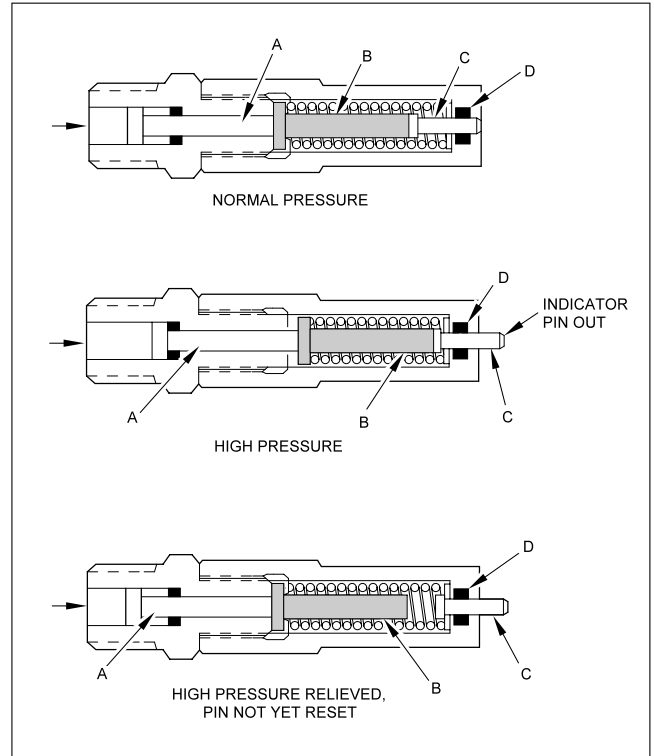

Figure 1. Reset Indicator Operation
Reset Indicators stop lube system operation when a fault occurs. These devices can be used in either master or secondary divider valves. When a lube line becomes blocked, the resultant high pressure moves pistons (A) and (B) (see Figure 1). This movement compresses the spring and pushes indicator pin (C) through the opening in the cap. The high pressure prevents the affected divider valve piston from completing its cycle, causing a pressure backup through the divider valve which trips a pressure switch upstream from the valve and shuts off the pump. As high pressure is relieved, the spring expands, resetting the pistons. Indicator pin (C) is held in place by o-ring (D) until it is reset manually. This helps locate the lube line that is blocked.